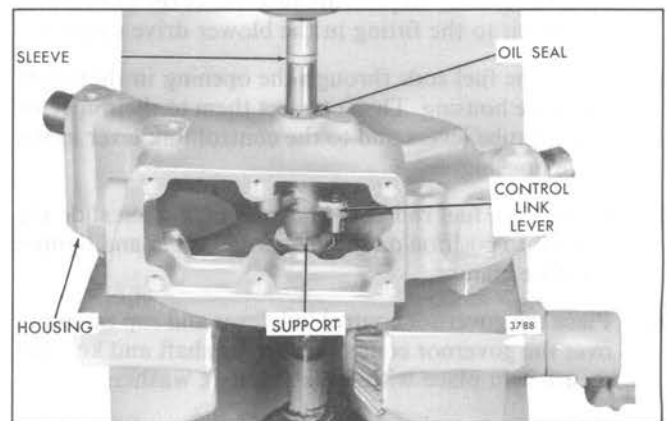

Fig. 20 – Installing Control Link Lever Shaft Oil Seal in Governor Drive
- b. Support the governor drive housing on the bed of an arbor press, with a spacer under the end of the control link lever to prevent the bearing from slipping out of the housing (Fig. 20).